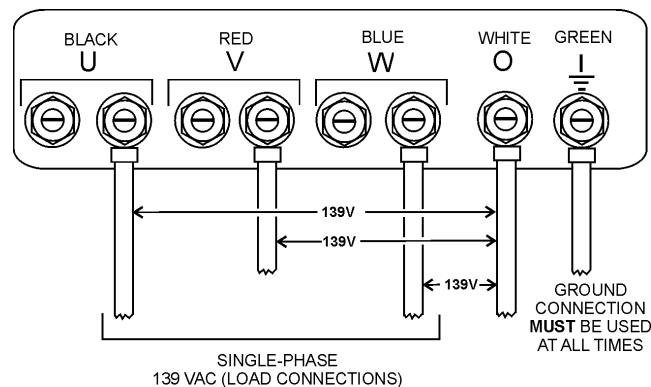

Figure 25. UVWO Terminal Lugs 10-139V Connections
2. Connect the load wires to the UVWO terminals as shown in Figure 25.